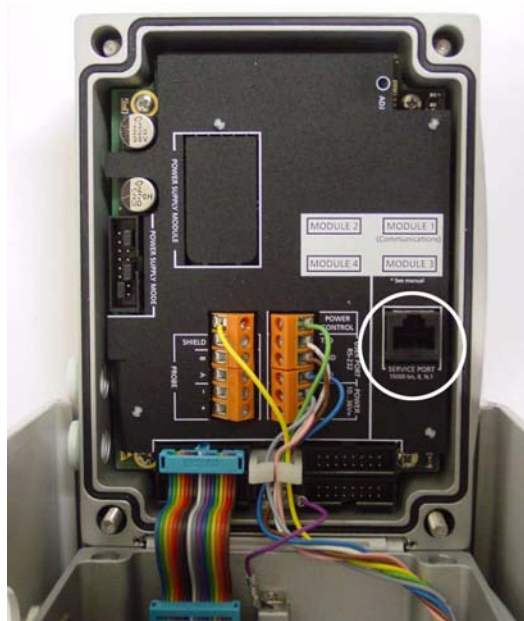

Figure 25 **Service Port on the PTB330 Motherboard**
2. Connect the serial interface cable (optional accessory, order code: 219685) between a USB port on your PC and the service port connector on the motherboard. See Figure 25 on page 63 for the location of the service port.